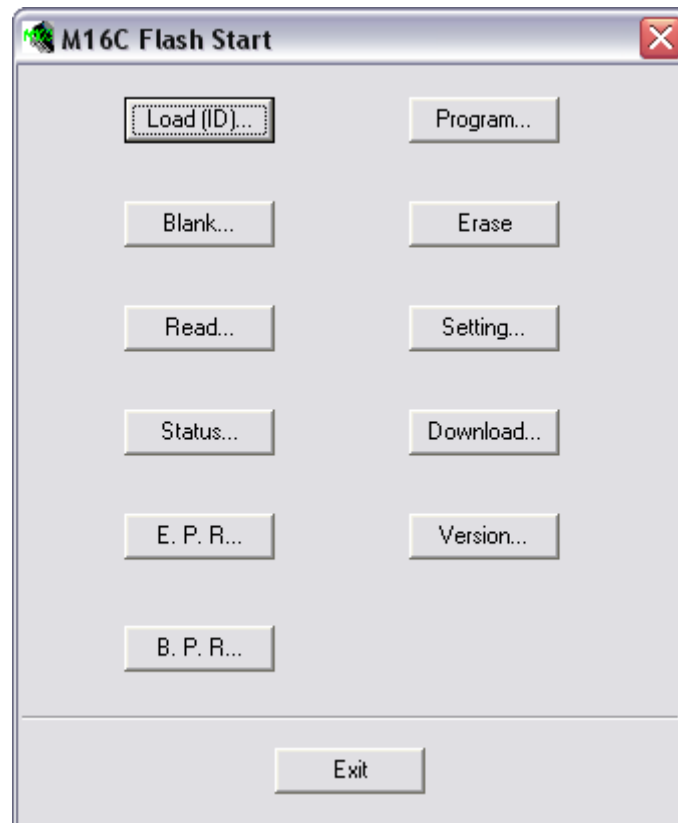

Figure 25-4 - Programming menu
6. The window shown in Figure 25-4 will appear. Click the "Setting..." button. Select a baud rate of 38400 with a program interval of 40ms and click "OK". Click "Erase" to remove any previous software from the Widget's memory, click "OK" to confirm, and click "OK" when the message "Erase OK" is given.